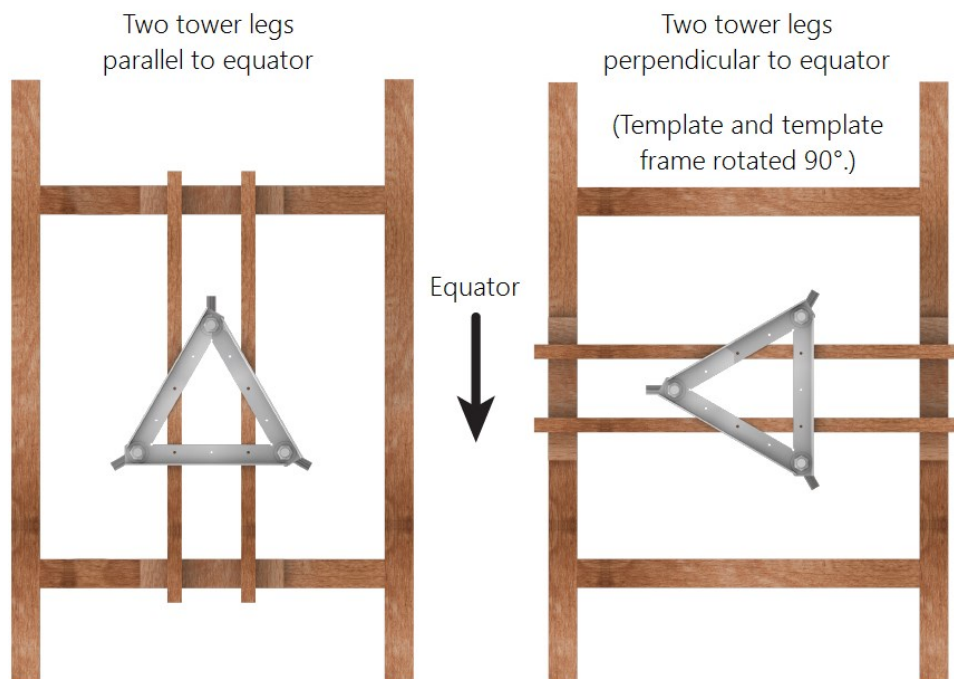

FIGURE 7-4. Template frame orientation
- Position the template frame as shown in FIGURE 7-4 (p. 12). The arrangement with two tower legs parallel to the equator is preferred for mounting a solar panel facing the equator. In instances where a crossarm needs to run perpendicular to the equator, such as precision pyranometer measurements, rotate the template and template frame 90° and mount the frame on the East and West sides of the concrete form. This lines up two tower legs perpendicular to the equator. The top of each bolt will be 7.6 cm ± 0.6 cm (3 in ± 0.25 in) above the level of the form. Level the tops of the J-bolts in all directions using a small level and secure the J-bolt template to the template frame with 25 mm (1 in) screws where holes in the template overlap the wooden frame.